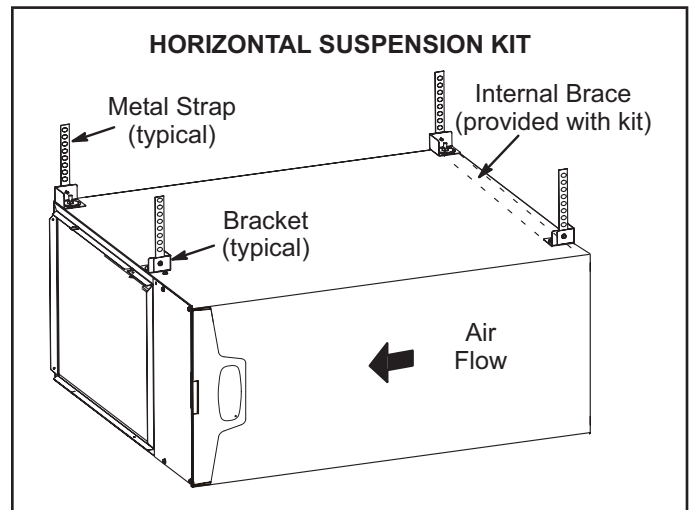

**Figure 17**
The ML196UHE furnace can be installed in horizontal applications with either right- or left-hand air discharge. Refer to Figure 17 for clearances in horizontal applications.
- 1 - Select location for unit keeping in mind service and other necessary clearances. See Figure 17.